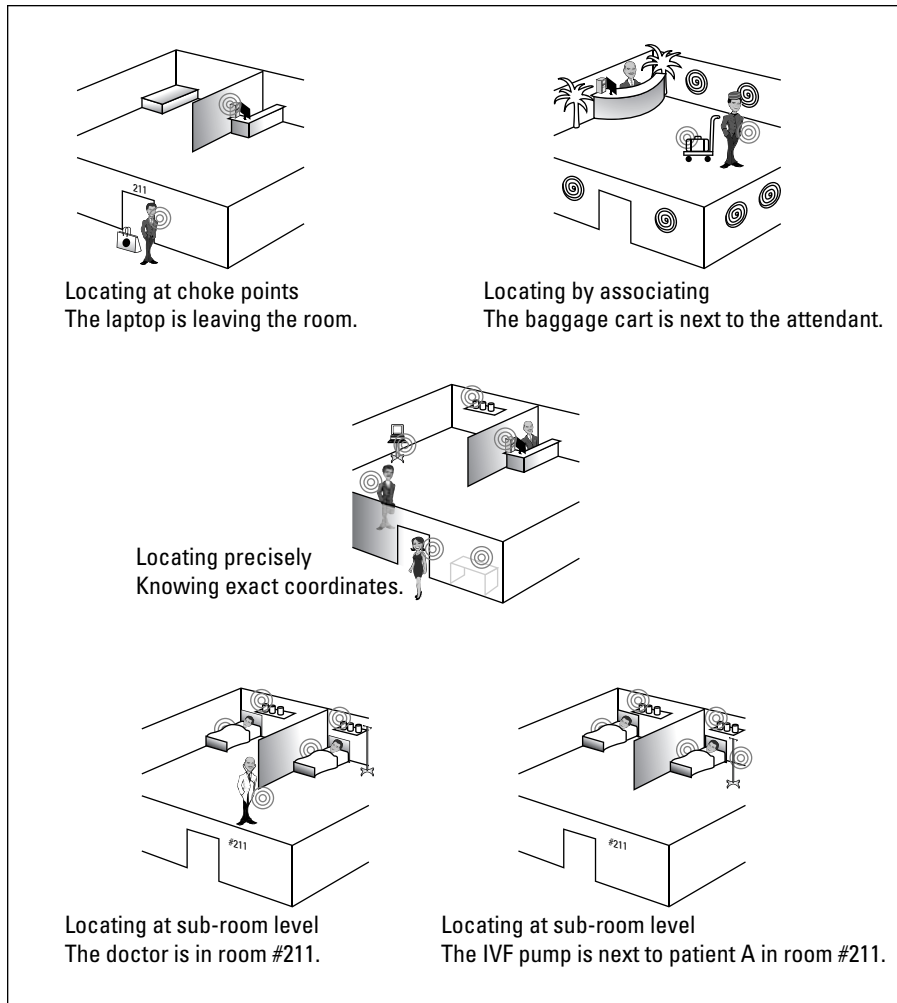

Figure 1-2:
To satisfy the needs of various applications, whether they need precise location or room-level location, various RTLS systems report the location of tags in one of the following ways (see Figure 1-2):
- ✓ **Locating at choke points:** In this model, as shown in Figure 1-2, the tag location is returned by a specific *choke point* (an entry or exit point, such as a door; it's assumed that people or assets move from one area to another through these choke points). By monitoring the time a tag was seen at a specific choke point, you can also determine the direction the tag is moving. In other words, you can determine whether the tag is present inside or outside an area and whether it's entering or leaving the predetermined area. For example, if all visitors to a facility are required to carry tags, you can determine on which floor or building the visitors are located.
✓ **Locating by associating:** In this model, tag location is returned as proximity with respect to another tag (see Figure 1-2). For example, if each patient in a clinic wears a tag and each IVF pump has a tag, the location of the IVF pump is returned as present next to a specific patient. The billing department can use this data, which indicates how long the IVF pump was in use with any patient, to calculate invoice amounts. Or maybe you need to know whether the owner of a specific laptop is actually next to that laptop. Many securities, financial, or other location-based services can benefit by knowing this type of information.